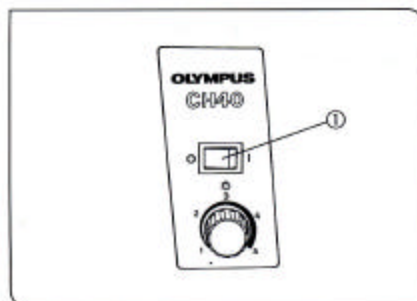

Fig. 10
(Figs. 10,11,12)
- ⚠ Make sure that the main switch ① is on "O" (OFF) before connecting the power cord. (Fig. 10)